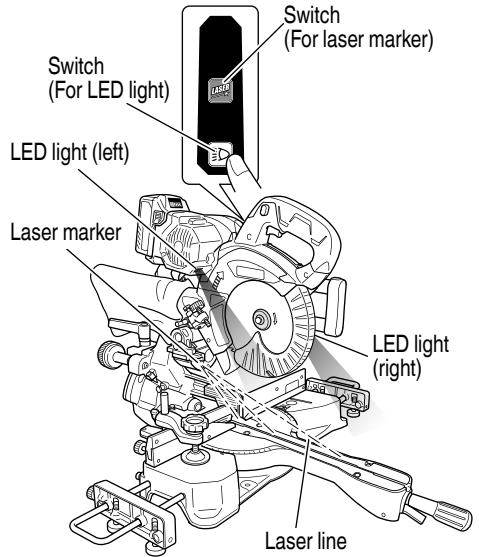

Fig. 27
(2) Turning the laser guide / LED light on (Fig. 27)